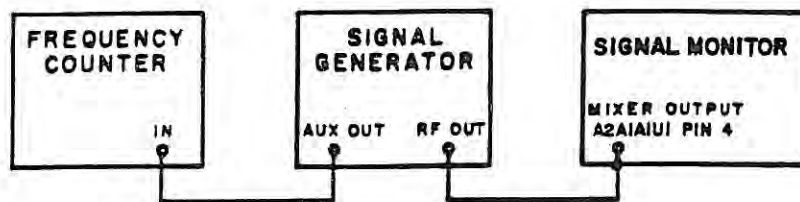

Figure A-5. Test Setup, 12.7 MHz IF Amplifier Alignment
- (1) Connect the equipment as shown in Figure A-5.
- (2) Set the Signal Monitor front panel controls as follows:
- (3) Remove the local oscillator input cable at A2A1J3.
- (4) Set the signal generator to 12.7 MHz, cw, at a level just sufficient to cause the baseline on the CRT to shift upward about half scale.
- (5) Adjust the following components for maximum vertical deflection of the baseline while reducing the signal generator output level to maintain the trace on the screen. Readjust to obtain maximum gain.